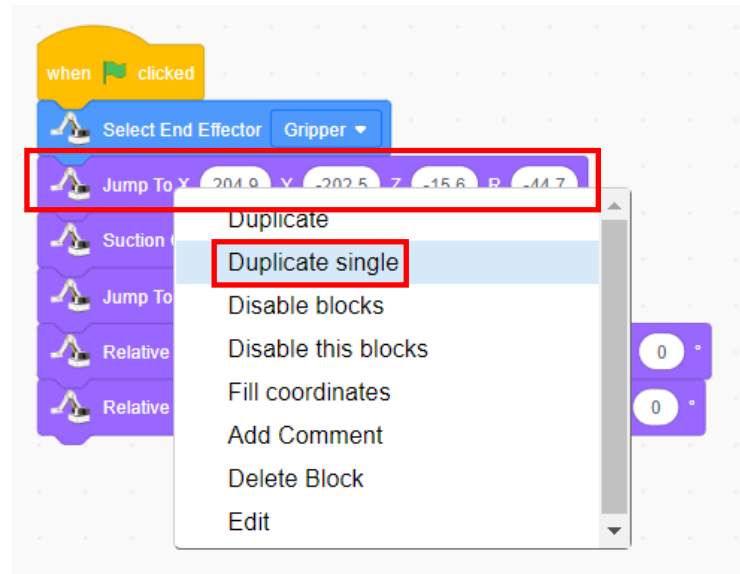

Figure 1.22 Copy "Jump To the stamp"
Step 3: Return to the position of the stamp. Move the mouse pointer to the "Jump To the stamp" block, right-click it, and select "copy single", put the copied block to the bottom of the program, and enable the end of the robotic arm to return to the position of the stamp, as shown in Figure 1.22